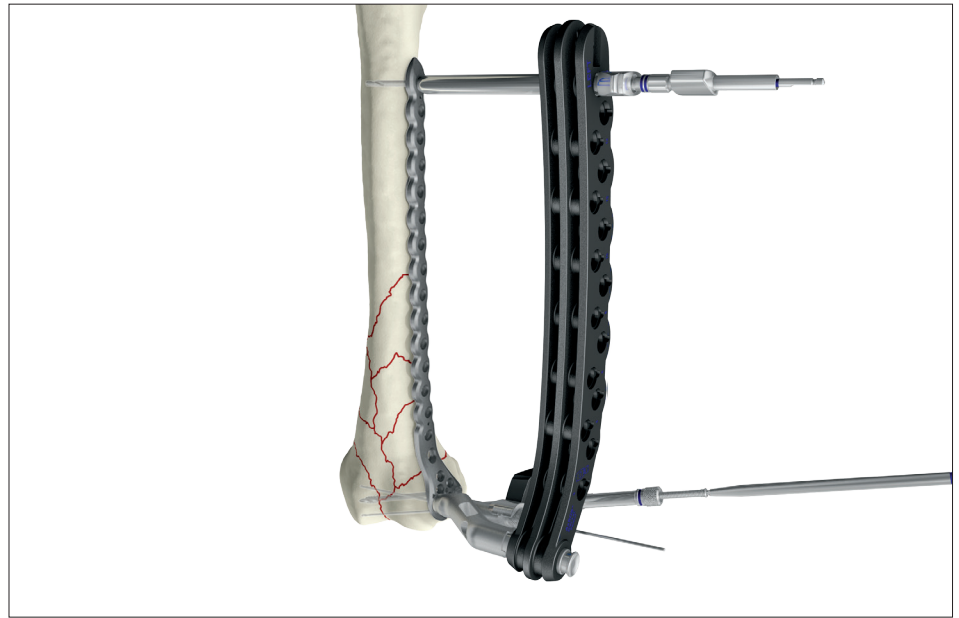

Fig. 19
The drill and the drill sleeve should now be removed and the correct length of the Ø5.0mm locking screw is inserted using the screwdriver T20 (ref 703539), or screwdriver bit T20 (ref 703540) (fig. 19).